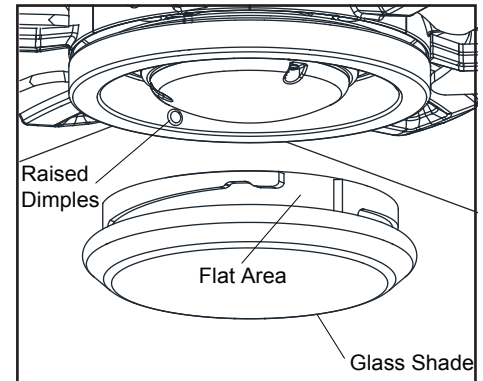

Figure 15
5. Place the shade into the light kit pan, aligning the three flat areas on the top of the shade with the three raised dimples in the light kit pan. Turn the shade clockwise until it stops. Make sure to twist the lens in completely. Exert enough force to get over the first bump and twist completely in. (Figure 15)